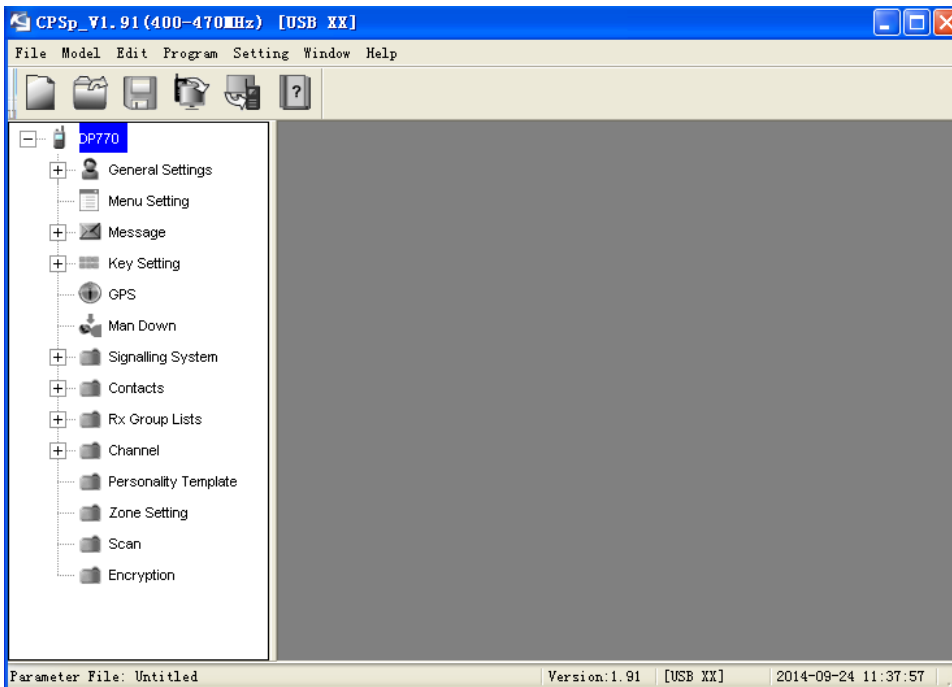

Figure 4.6
(5) Click “Finish” to finish the installation.
(6) Please double click the Kirisun DMR Programming Software to run it after finishing installation.(See figure 4.6)